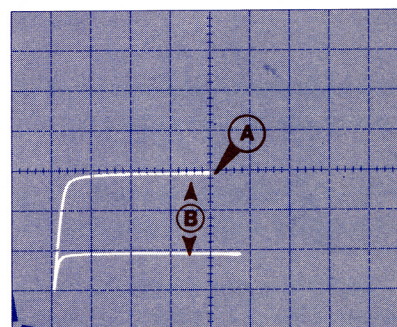

Figure 4-2. Small signal transconductance G_m measurement. Point (B) is the area of interest.
- 4) Reposition trace— Using HORIZONTAL and VERTICAL POSITION controls, move point (A) (fig. 4-2) corresponding to specified drain source voltage to intersection of middle horizontal graticule line and any convenient vertical graticule line. 26 27
- 5) Calculate G_m and compare to specifications – Using formula: $G_m = \# \text{ of vertical divisions between traces} \times \text{vertical scale factor} \div \text{step amplitude}$, calculate G_m . Compare to specified value. See Figure 4-2.